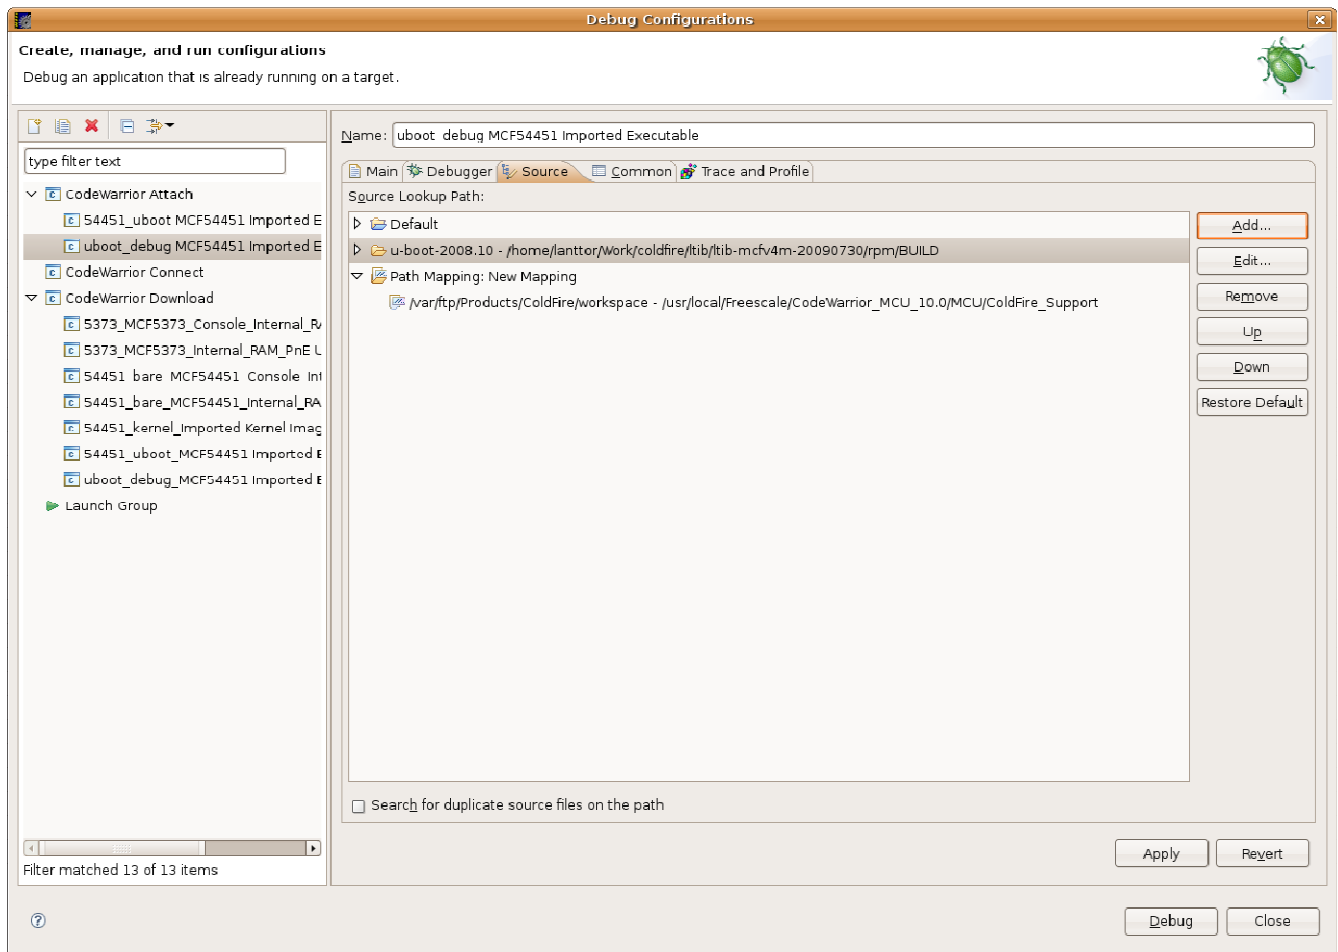

Figure-7 Debug configuration cont.
14) Click **Source** table, Add source path. Please refer to Figure-7.